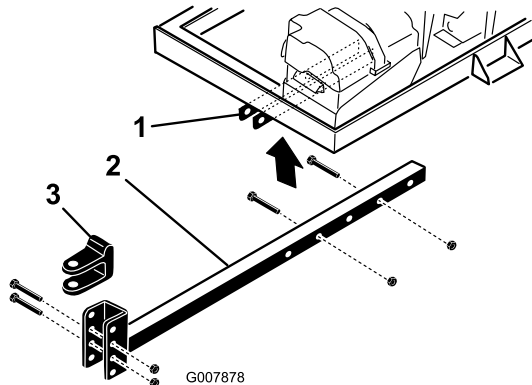

Figure 5
2. Insert the hitch tube into the frame brackets (Figure 5). Secure the tube to the frame with 2 bolts (3/8 x 3 inches) and flange nuts (3/8 inch).
- Remove the bolts and locknuts securing hitch clevis (Figure 5) to hitch tube.
- Remove the bolts and nuts securing the hitch tube to frame brackets (Figure 5).